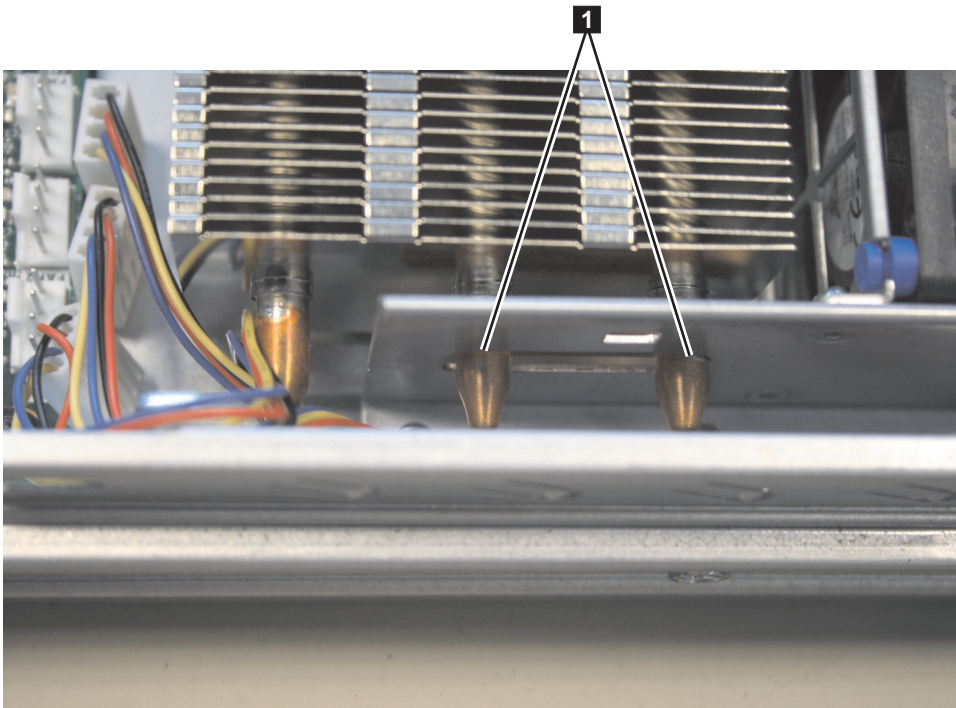

Figure 268. Alignment pins on the SAN Volume Controller 2145-8A4 heat-exchanger assembly
5. With the heat-exchanger assembly at an angle, carefully align the heat-exchanger assembly with the microprocessor and the heat exchanger retention module (socket) on the system board. Make sure that the alignment pins **1**, shown in Figure 268, protrude through the alignment hole (the opening in the side of the heat-exchanger bracket) and that the flange of the heat sink rests under the lip of the heat-exchanger socket.